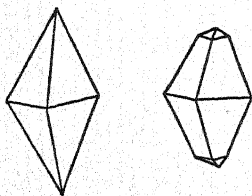

FIG. 196.—Rhombic sulfur crystals.
**307. The Allotropic Forms of Sulfur.** 1. *Rhombic sulfur*. If we dissolve a little brimstone in some carbon disulfide, and then let the disulfide evaporate, crystals of sulfur will separate from the solution. The crystals that are formed in this way will be shaped like an octahedron. (See Fig. 196.) Such crystals are stable at room temperature. They are a little more than twice as dense as water.